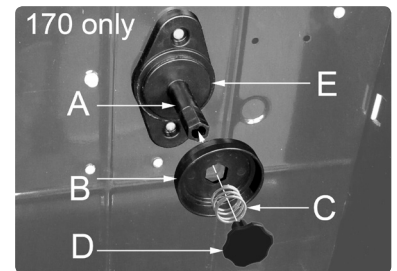

fig.9
- 4.11.2. Remove the retaining knob (D) from the end of the spindle (A) by turning the knob 90° anticlockwise and pulling it outwards (see fig.9).